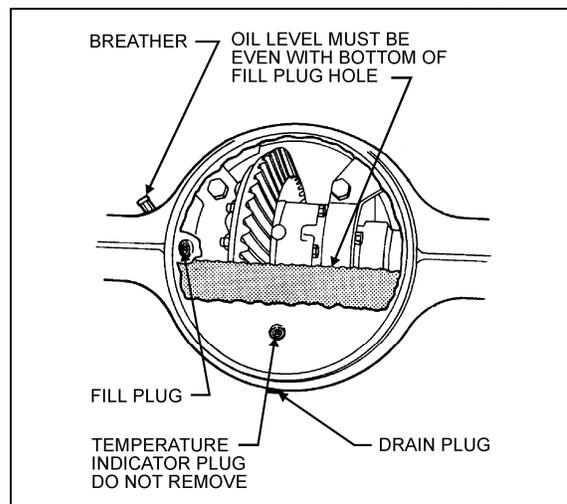

FIGURE 2: DIFFERENTIAL AXLE HOUSING BOWL 11007
80W140 for southern climates. In extreme conditions, or for better performance, fill with synthetic gear oil. Check oil level and add (if necessary) every 6,250 miles (10 000 km) or twice a year, whichever comes first (Fig. 2).
3. Clean the area around the fill plug. Remove the fill plug from the differential axle housing bowl (Fig. 2).